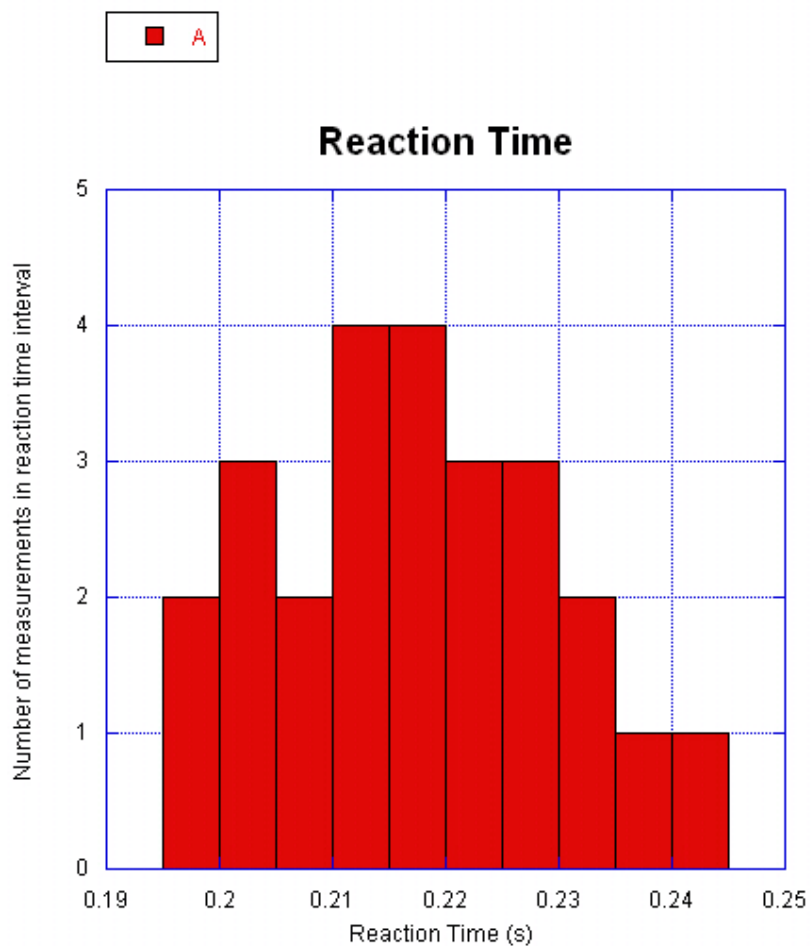

Figure 2.1: Typical histogram (bin size = 0.005 seconds).
The histogram is a diagram drawn by dividing the original set of measurements into intervals or “bins” of predetermined size, and counting the number of measurements within each bin. One then plots the frequency (the number of times each value occurs) versus the values themselves. A histogram has the advantage of visually presenting the distribution of readings or measurements. Fig. 2.1 shows a typical histogram for a set of observations. The histogram displays the number of measurements. For example, the first bin has two measurements between 0.195 seconds and 0.200 seconds. When placing the values into bins, one systematically puts values that occur on the bin limits into the next higher bin.
16. Change the number of bins such that your histogram looks similar to the one shown in Fig. 2.1. Do this by going to **Plot** ► **Plot Options** ► **Histogram** ► **Specifying the Number of Bins**, select **Fixed**, input an appropriate integer number, and press **OK**. Make sure most of the bins are filled in so that there are not many gaps in your histogram.